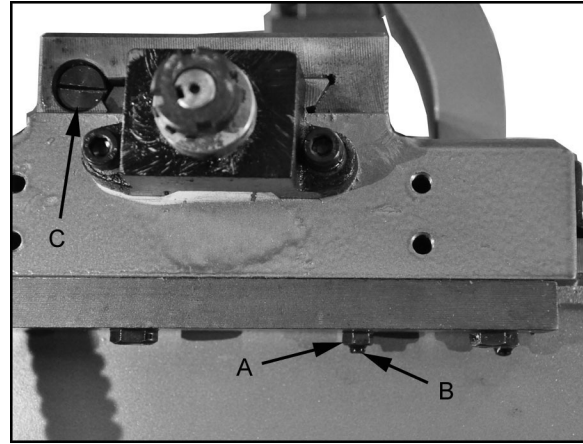

Figure 11-1
- Loosen four hex nuts (A, Figure 11-1) found on the bottom rear of cross slide.
- Turn each of four set screws (B, Figure 11-1) equally with a hex wrench until a slight resistance is felt. Do not overtighten.